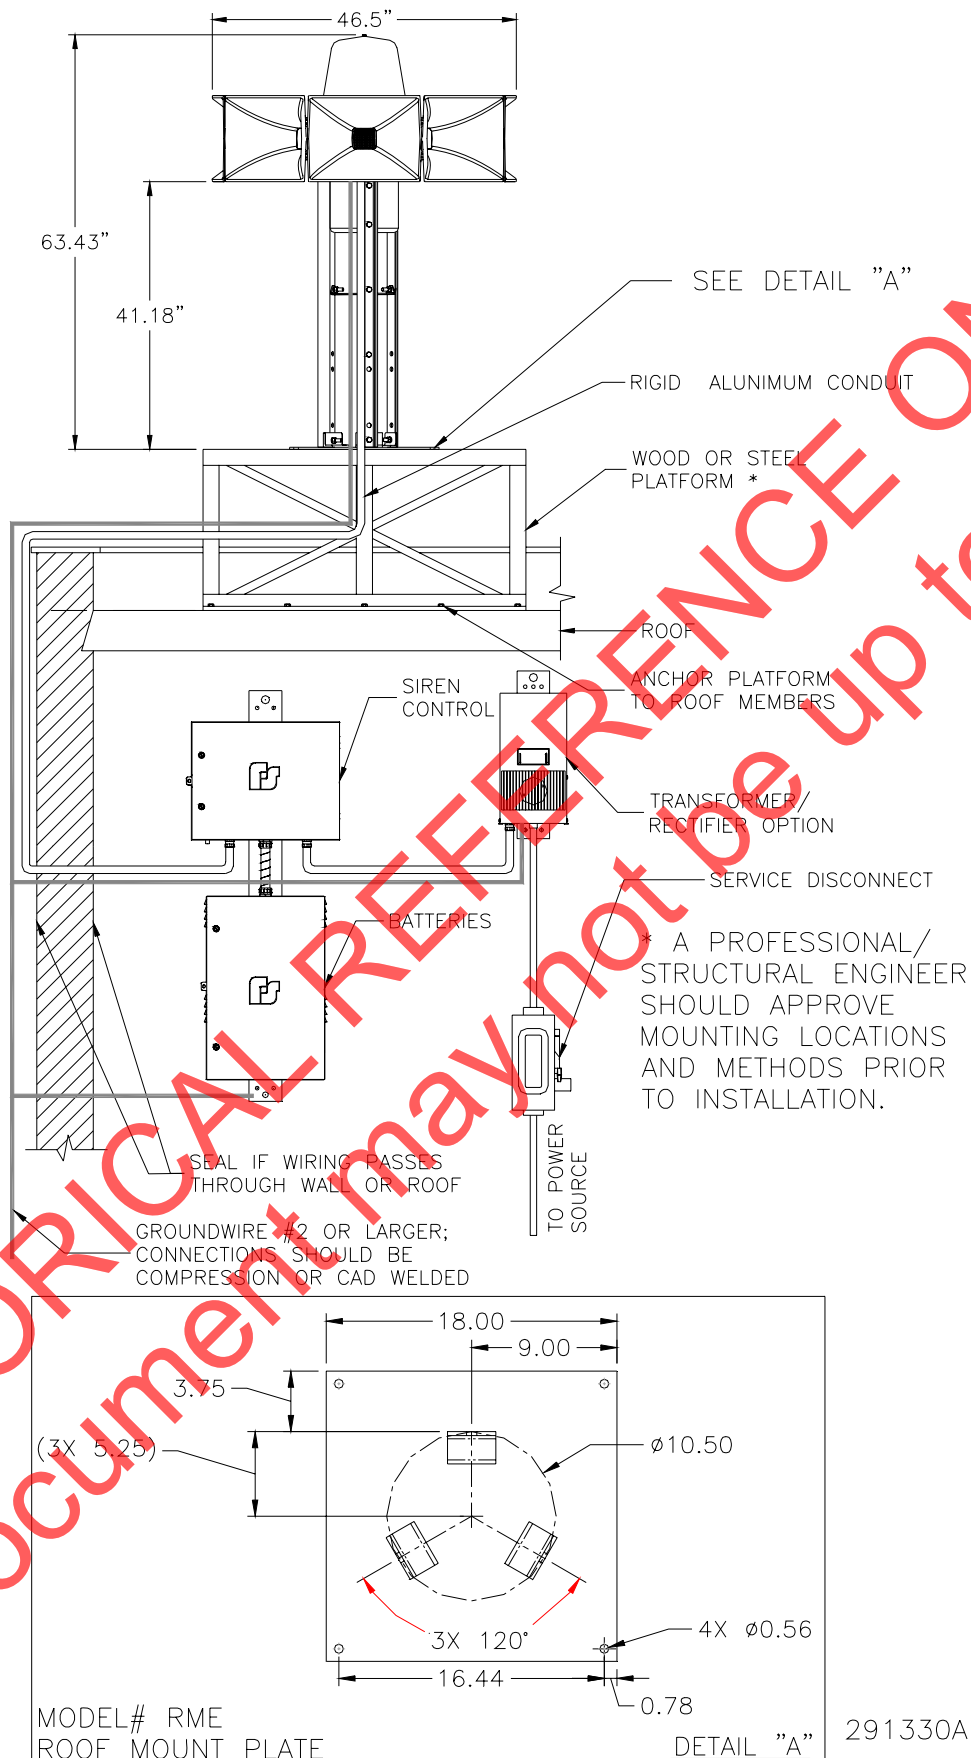
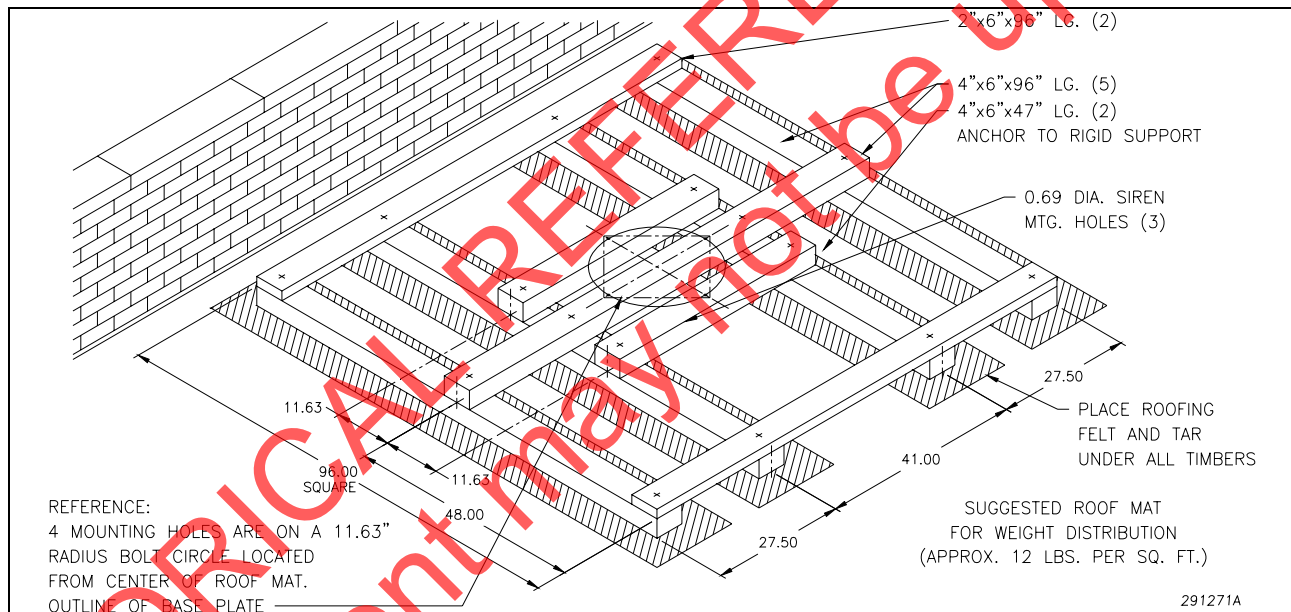

Figure 3-4. Typical Surface-mounted Siren Installation
Figure 3-5. Weight Distribution Mat Construction
A model RME mounting plate is required for mounting on flat surfaces such as a building or top plate of a steel or concrete pole. This installation configuration is practical for buildings that have a flat roof. The siren can be anchored directly to the roof, on a platform as shown in figure 3-4, or on a weight distribution mat like the one shown in figure 3-5.
A mat is required when the siren mounting surface is unable to support at least 280 pounds (127kg.) over a 1.5 square foot area. The mat shown in figure 3-5 distributes the siren weight over an 8 square foot area. When installing the siren on a flat roof, be sure that it clears the parapets or other obstructions by at least ten feet.
3. Anchor the siren to the mounting surface with 1/2" lag bolts or nuts and bolts, as appropriate through the mounting holes (one in each corner) in the siren base plate (see figure 3-4, detail A). If the siren is mounted directly on a roof, (without a platform or weight distribution mat) be sure to install waterproof joints at the points where the mounting bolts pass through the roof so that water does not enter the building.